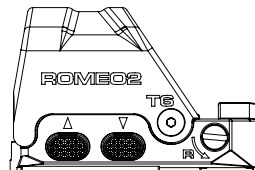

FIG. 4
B. **HALF SHROUD.** This configuration adds drop and impact protection and is ideal for use in dry environments. (Fig. 4)